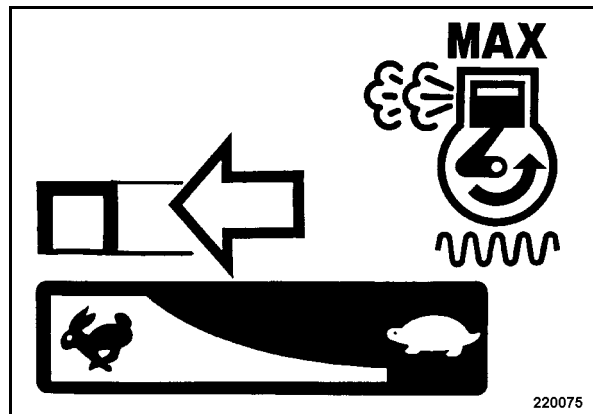

Fig. 24
- Shift the throttle lever (Fig. 24) in direction of arrow to full load position.